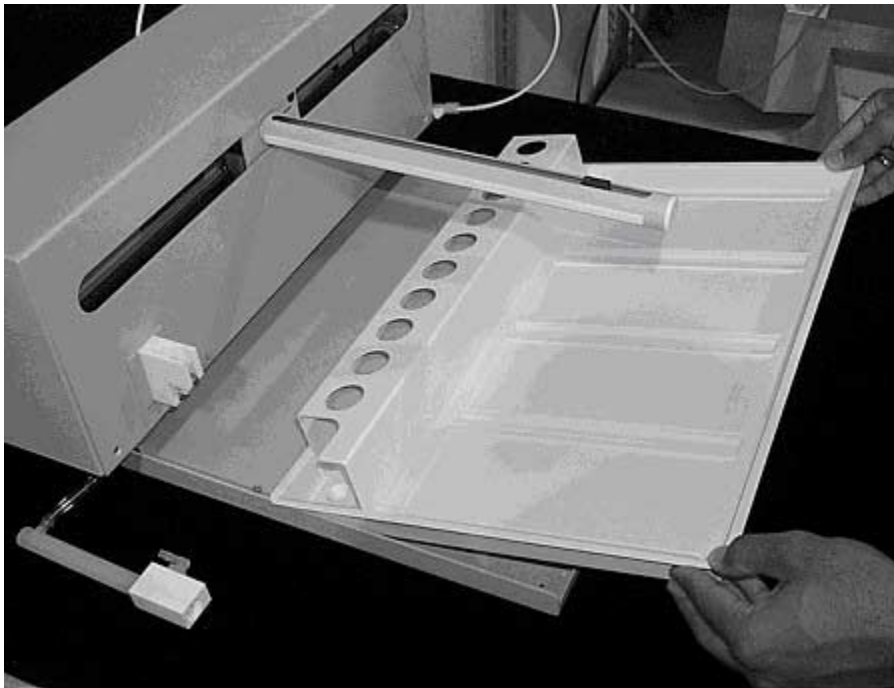

Figure 1-6. Removing the tray.
4. The auto sampler tray is the next to be removed. Lift up the tray and pull out. See Figure 1-6.